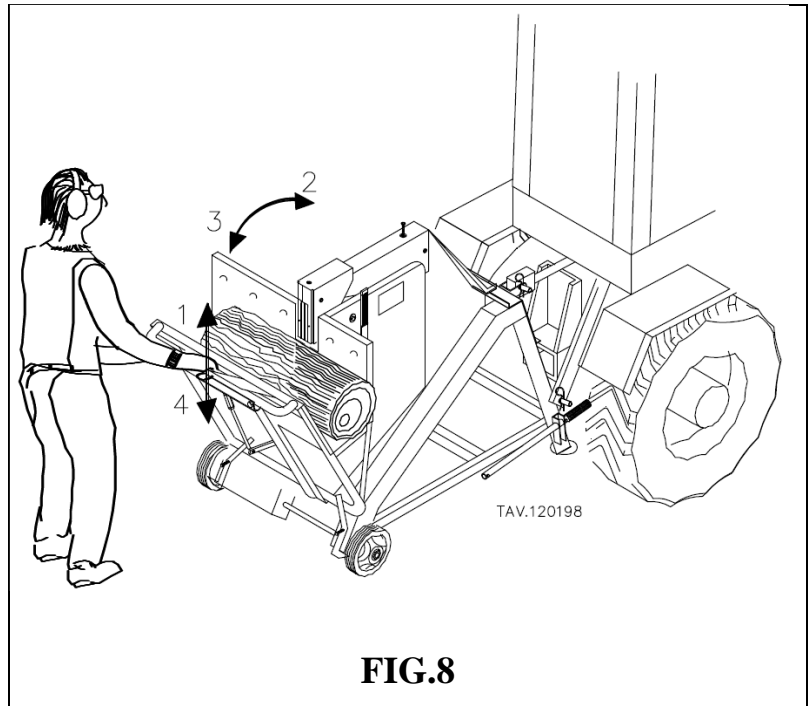

FIG.8
3. The operator, wearing the appropriate protection gloves, headset and glasses, presses and pushes the handle forward (pos.115) forward tilt of the frame (pos.4) (see Figure 8).